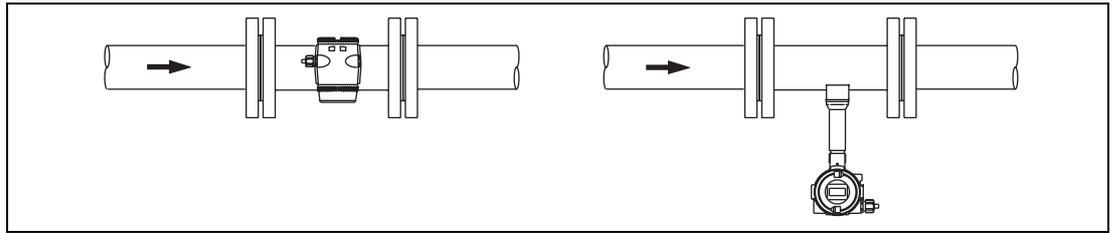

Fig. 12: Installations for High Fluid Temperatures > 150 °C
- **for high fluid temperatures the flowmeter primary should be installed so that the electronic assembly is mounted at the side or bottom of the flowmeter (Fig. 12).**